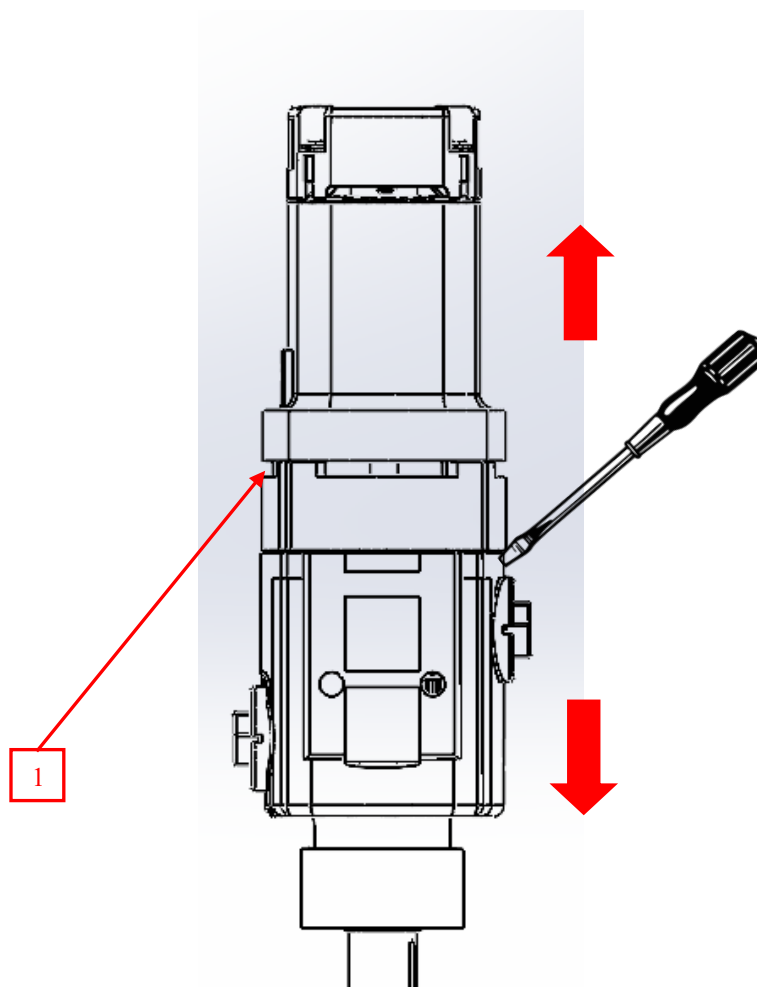

Figure 5.14
- 5.5.1 Place the motor in a vertical position and then unscrew the screws as shown in figure 5.14 – position 1;
- 5.5.2 Use a screwdriver to pry the two parts apart as shown in figure 5.14;